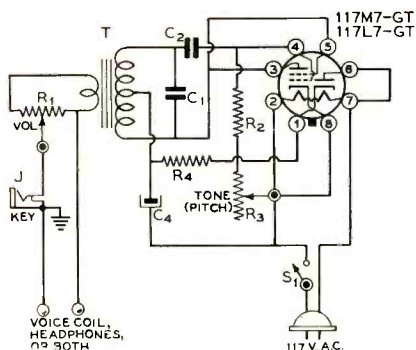

Figure 1. Schematic diagram of a.c.-d.c. code practice oscillator.
Describing the simpler unit first, the code practice oscillator of figure 1 consists of a single-tube feedback oscillator in which the necessary phase shift in feedback voltage is supplied by the center tapped output transformer, T, and by the grid-leak-condenser combination C₂ and R₂-R₃. The oscillation frequency can be made higher than the "natural" period of the transformer by so proportioning the grid condenser and leak that phase shift takes place at the "natural" frequency of T. At some higher frequency the combined phase shift will be favorable for
- Other constants same as for fig. 1.